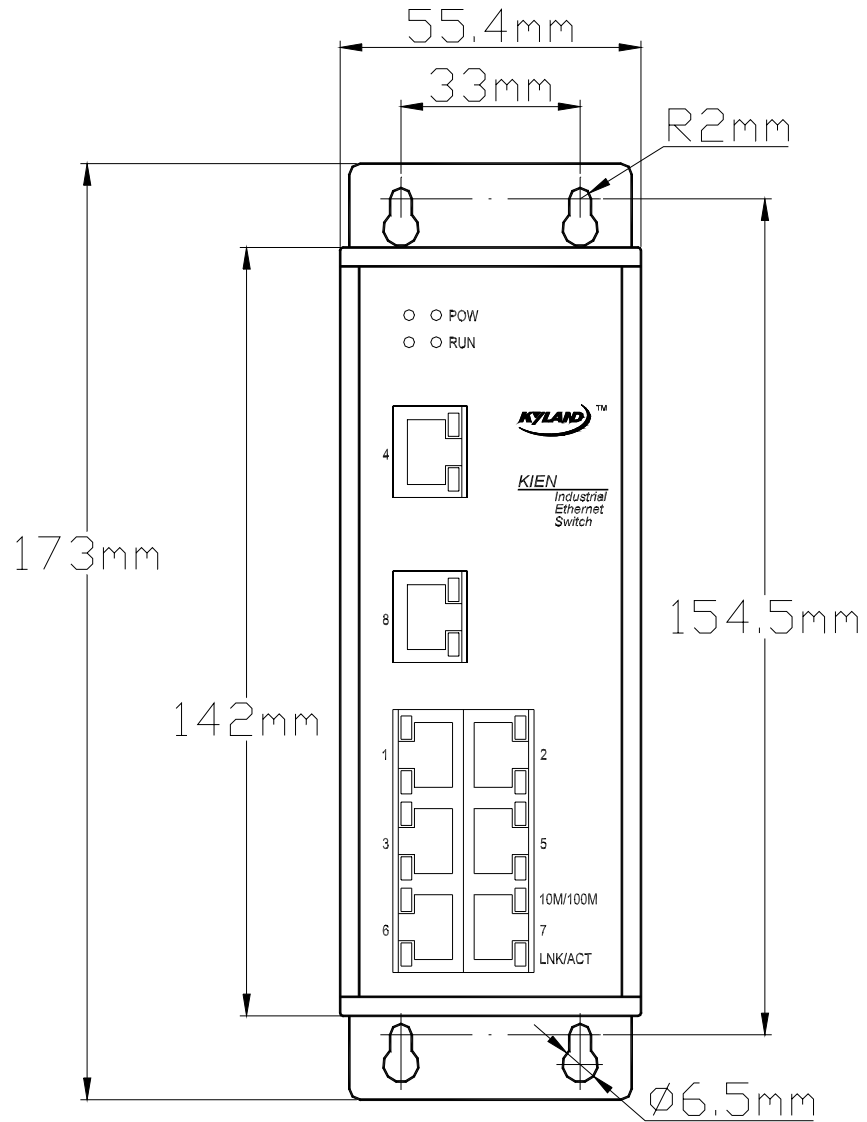

Figure 4-3 KIEN5000 wall-mounting dimensions
In some places, wall mounting may be more suitable than DIN rail mounting. KYLAND Telecom can provide the component (wall-mounting plate) for mounting KIEN5000 on wall. Wall-mounting dimensions are shown in Figure 4-3.
3. Select mounting position: vertical wall or inner wall of cabinet. If you select to mount on vertical wall, you are recommended to use  $\Phi 6$  plastic expansion bolts and  $\Phi 3$  tapping screws for equipment mounting. According to the mounting dimensions marked in Figure 4-3, drill four  $\Phi 6$  holes with an impact drill on the wall (the depth of the holes should allow fully inserting the plastic expansion bolt), fully insert the plastic expansion bolts in the holes on the wall, screw down the tapping screws into the plastic expansion bolts with a cross head screwdriver but do not screw down thoroughly, reserve a distance of around 5 mm; if you select to mount on the inner wall of cabinet, you are recommended to prepare four M3 threaded holes on the inner wall of cabinet when making the
cabinet according to the mounting dimensions marked in Figure 4-3, or drill four  $\Phi 4$  holes with a hand-held electric drill on site, and screw down four M3  $\times$  10 pan head screws with cross recess into the four holes with a cross head screwdriver (if the holes are not threaded inside, it is necessary to mount four M3 nuts on the back side). Do not screw down the screws thoroughly, reserve a distance of around 5 mm.